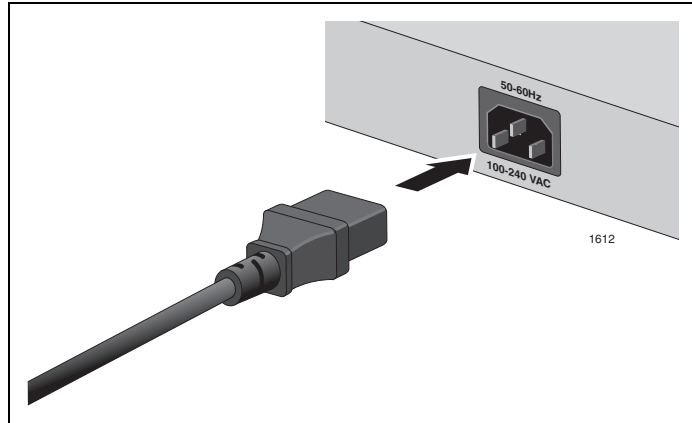

Figure 13. Connecting the AC Power Cord
1. Plug the power cord into the AC power connector on the back panel of the switch, as shown in Figure 13.